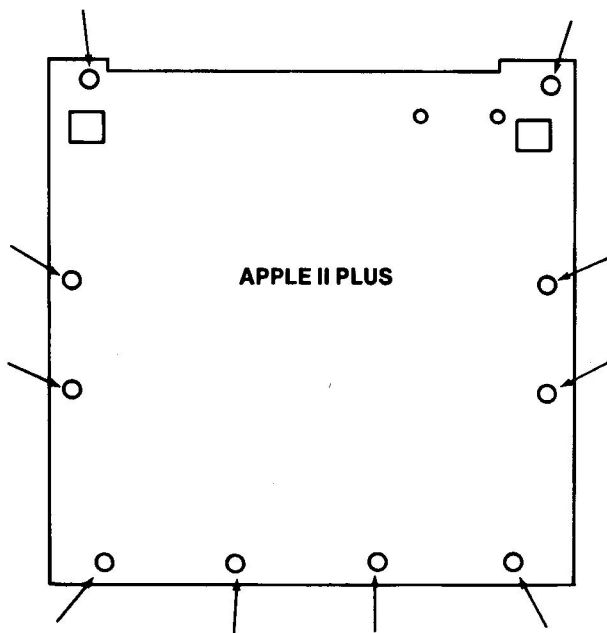

Fig. A-1. Apple II Plus Bottom Plate.
6. Refer to Fig. A-1. Remove the six silver-colored, flat-head screws from the outside edges of the baseplate.
7. Refer to Fig. A-1. Remove the four black, round-head screws and lockwashers from the keyboard end of the baseplate.